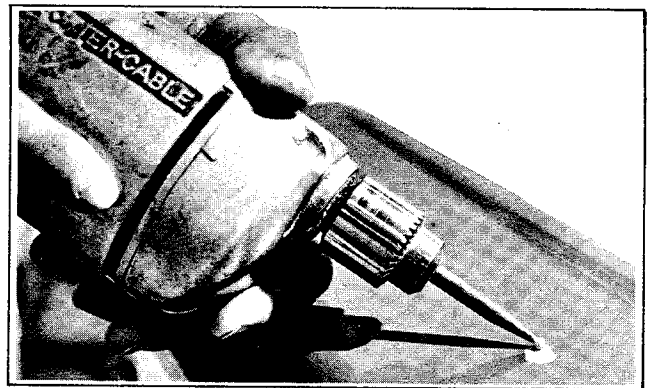

Figure 2-34. Roughing Damaged Area
2. Roughen the bottom and sides of the damaged area, using a power drill with a burr attachment. Feather the edge surrounding the scratch or gouge, being careful not to undercut this edge. See Figure 2-34.